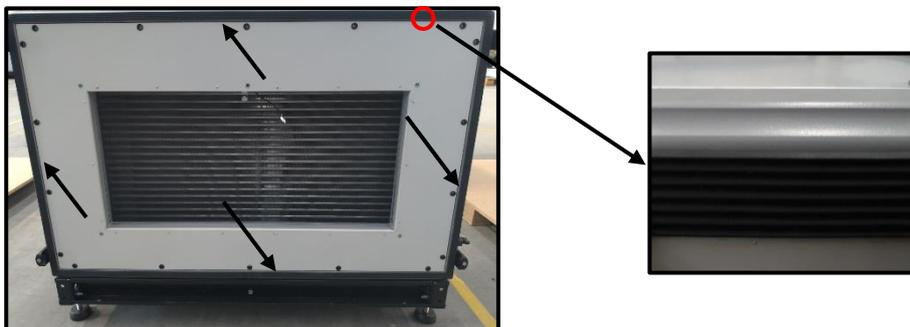

Fig. 45
1. Apply sealing strip to the surface where the module will be connected with the device (Fig. 45)